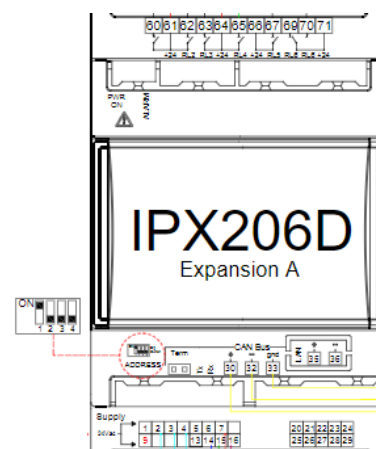

Figure 6. Flö i-Controller Expansion Addressing
Double-check that the Expansion Modules are addressed as 1 & 2. Verify the addressing and adjust as necessary on the dip switches (location called out in *Figure 6*. This figure is an example of expansion A setup).
**NOTE:** The actual switch may be white but for illustrative purposes, the switch is black in the *Figure 6* below.